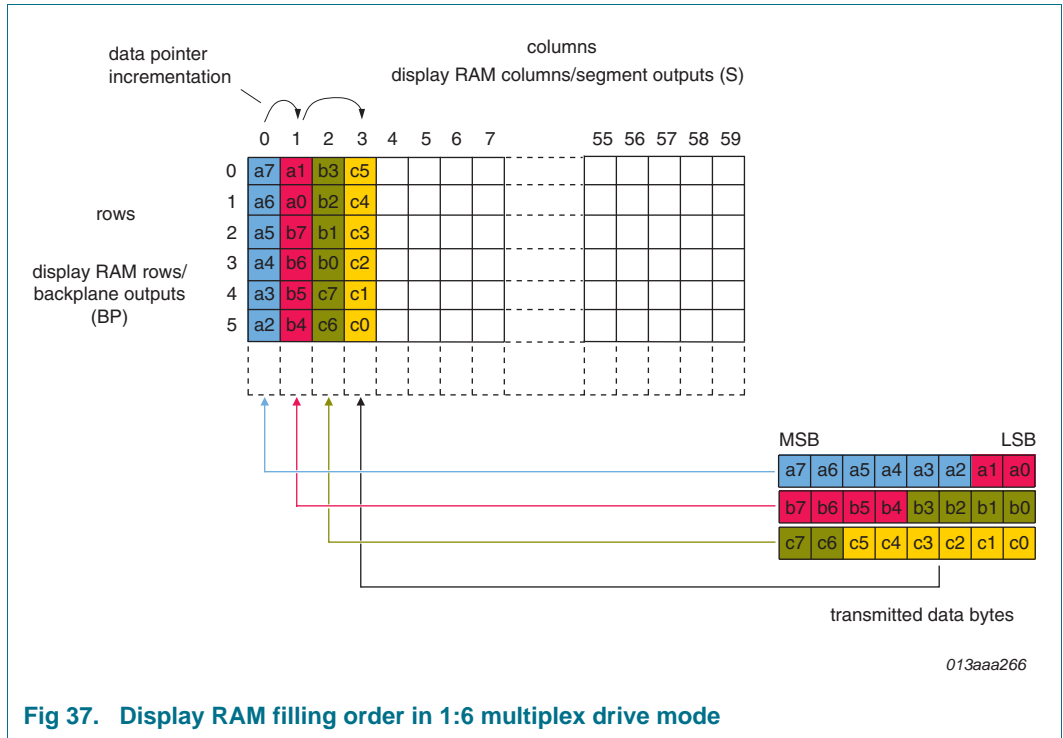

Fig 37. Display RAM filling order in 1:6 multiplex drive mode
- by one or two (1:6 multiplex drive mode), see Figure 37 on page 45
In the 1:6 multiplex drive mode the RAM is organized in six rows and 60 columns. The eight transmitted data bits are placed in such a way, that a column is filled up (see Figure 37).